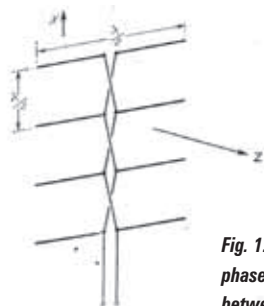
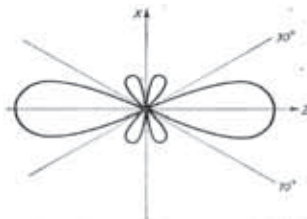

Fig. 1: A 4-element stack of half-wave dipoles, in-phase feeding is achieved by crossing the feeders between elements.
Fig. 2: Polar diagram of a system of four half-wave dipoles. Highest sensitivity in direction Z, zero sensitivity in directions 30° and 90° (X).
For use in radio astronomy, however, aerials of considerably higher gain and directivity must be used. This can easily be achieved by using an array of several half-wave aerials and feeding them in phase (Fig. 1). Highest sensitivity is in the direction Z. The polar diagram of this four-element system is shown in Fig. 2. Sensitivity is zero at an angle of 30° from the direction of the highest sensitivity (Z), and by increasing the angle a smaller maximum of sensitivity is found. These 'side lobes' are present with all multi-element arrays.